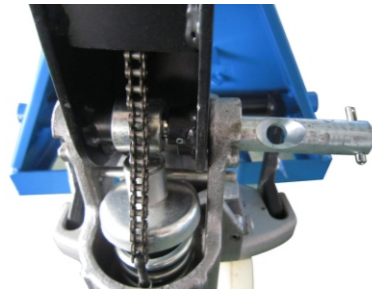

Fig. 2
- 3.1 Insert the draw-bar onto the pump piston, and then use a hammer to insert the axle with hole (105) into the hydraulic pump and draw-bar from the right to left. (See fig. 2).